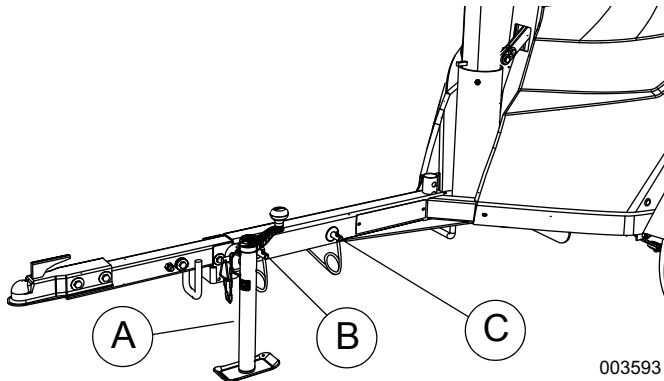

Figure 2-6. Extend Jack and Remove Pins
2. See Figure 2-6. Extend jack (A) enough to allow minimum effort to pivot trailer tongue into storage position.